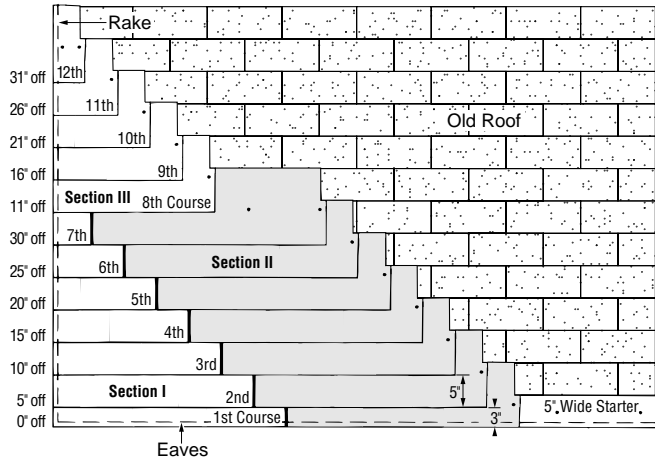

Figure 14-15: Five Off, Twelve Up, Nested.
1. Begin the first diagonal, "Section I," by taking a full shingle and removing its left-hand  $\frac{3}{8}$ " x 5" shiplap piece and a 2" strip from the bottom edge (Figure 14-15).
1. Begin the second course by cutting 5" off the left end of a shingle and applying the 31" piece over and above the first-course shingle, flush with the left edge of the first-course shingle, and exposing the first course only 3". This, and all other shingles, will nest with the butt edges of the old shingles (Figure 14-15).
3. Install "Section II" as shown in Figure 14-15 using full shingles against the seven courses in "Section I." This must be done before continuing with courses eight through twelve ("Section III"). These "Section II" shingles are to be butted up against the "Section I" shingles that started courses one through seven. Fasten all shingles in the normal fashion.
1. Begin the eighth course by cutting 11" off the left end of a shingle and applying the 25" piece over and above the seventh-course shingles. Shingle should be flush with the left edge of the first seventh-course shingle, and exposing it 5" (Figure 14-15).